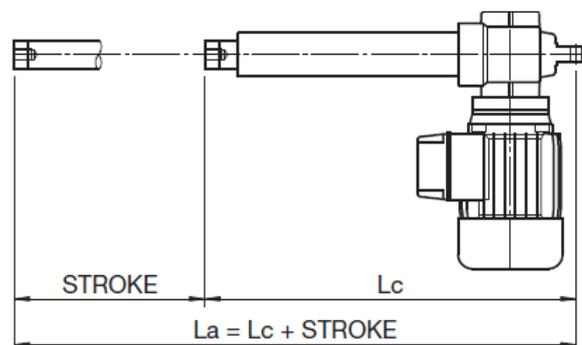

Figure 6.10 – “Lc” and “La” dimensions
FCM magnetic limit switches are supplied already fixed on extreme stroke positions Lc and La (see Fig. 6.10):
- Check if the extreme dimensions of the actuator “Lc” and “La” (see Fig. 6.10) are compatible with extreme positions of the plant component that has to be moved.
- Before to start relubrication, put the actuator in extended position (La – see Fig. 6.10)